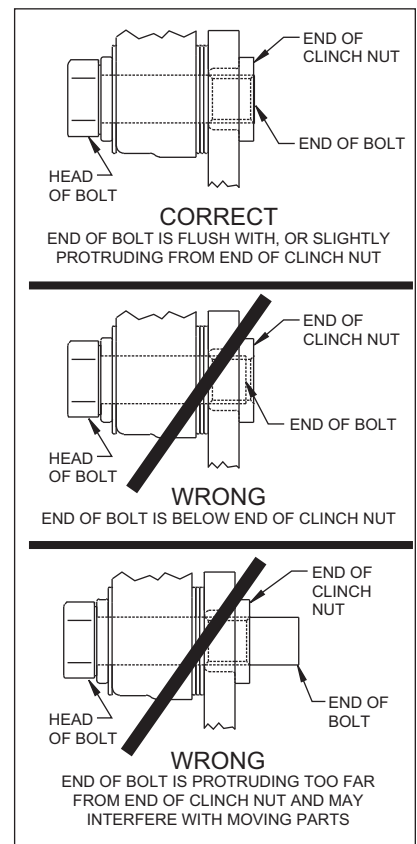

Figure 5. Clinch Nut Engagement Diagram
•**NOTE:** Please reference the caution statement at the beginning of the assembly instructions. Mount the caliper (5) onto the caliper mounting bracket (1) using two bolts (11) and two washers (12). View the rotor (6) through the top of the caliper (5). The rotor (6) should be aligned in the center of the caliper (5). If not, loosen the two bolts (11) and adjust the caliper (5) by using 0.035 inch thick shim washers (10). The shim washers (10) should be placed between the caliper (5) and the caliper mounting bracket (1). Finger tighten and recheck alignment. **NOTE:** The end of the bolt must be flush with or slightly protruding from the head of the clinch nut. See Figure 5. Place spare shims (10) between washer and caliper mounting ear to achieve the proper mounting fastener configuration. Add as many shim washers (10) as necessary to achieve the correct alignment. Always use the same amount of shims on both the top and bottom caliper mounting bolts (11). Loosen the two bolts (11) and apply red *Loctite*® 271 to bolt threads (11) and torque to 30 ft-lb. Safety wire the two bolts (11).
•Install the disc brake pads (13) and secure using cotter pin (14). Repeat this procedure for the other wheel.